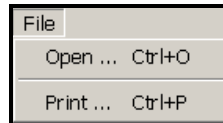

Figure 43. Util | Convert Report Dialog | File Menu
The **File** menu on the **Convert Report** dialog has two (2) choices as shown in Figure 43.